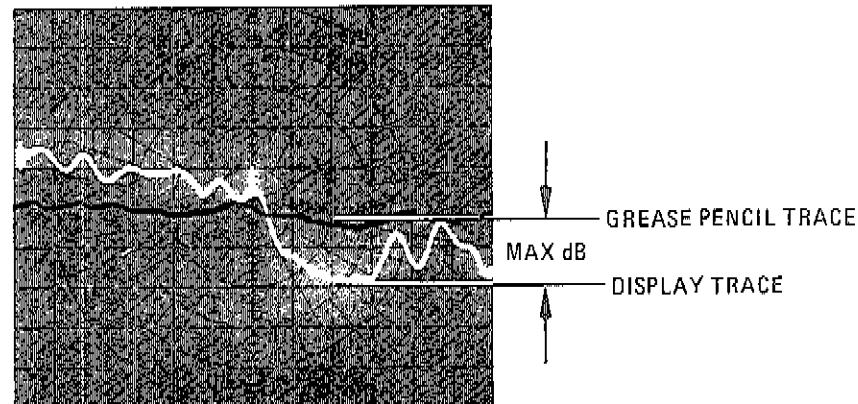

Figure 10. Reflection Frequency Response Magnitude
- (3) Measure the maximum difference between the grease pencil trace and the display trace (Figure 10). This measured value should be  $\leq 1.5$  dB for the entire 0.5 to 1300 MHz frequency range.